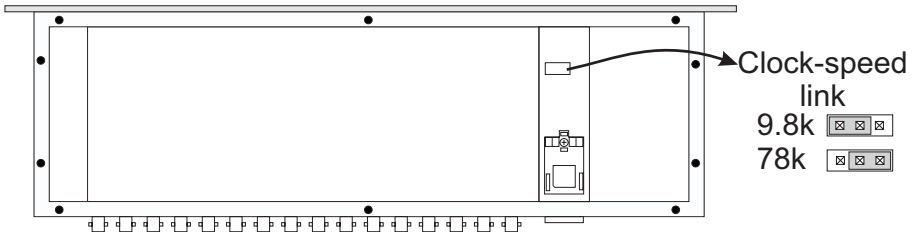

Figure 9 Location of Speed Link Inside the PY-COX
- Refer to figure 9 and move the link to the correct speed setting.